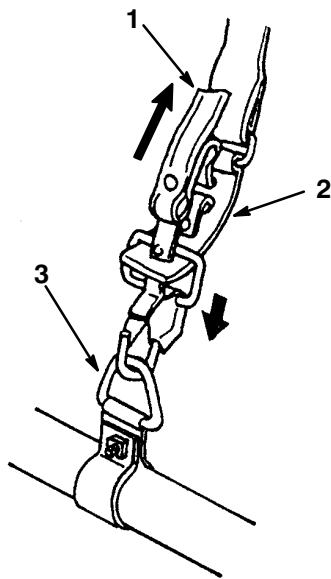

Figure 37
1. **Single Strap Harness, Model No. 46–2951 and Deluxe Strap Harness, Model No. 46–2961**—safety release straps made out of durable nylon webbing (Fig. 37).